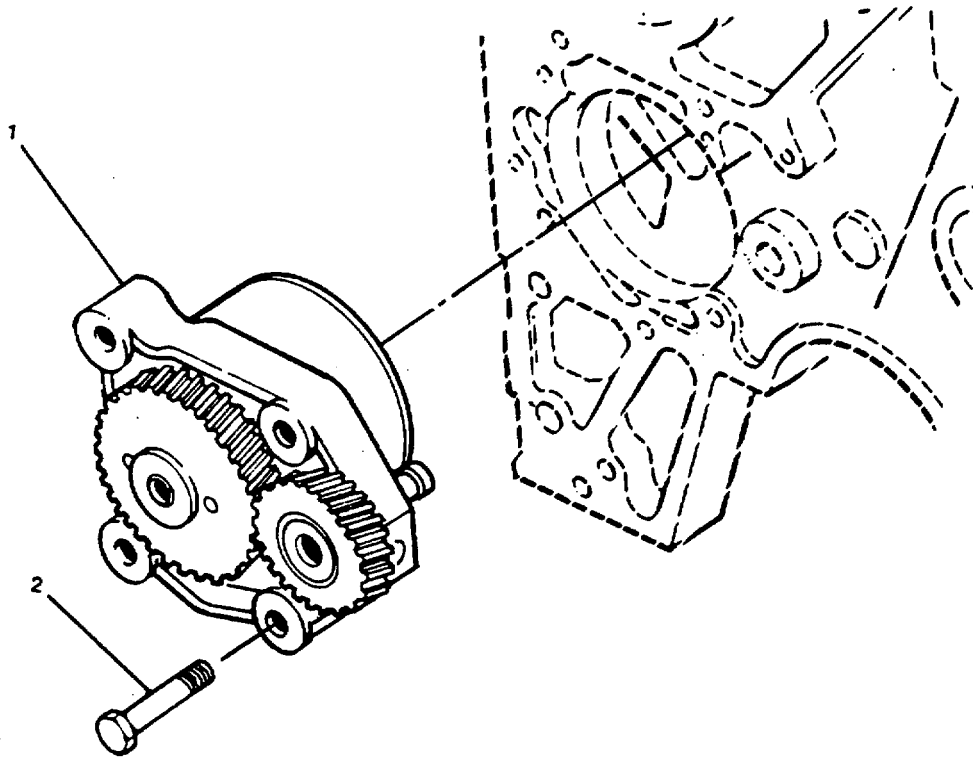

FIGURE 3-71. Lube Oil Pump.
REMOVAL (FIGURE 3-71; for callouts)
REPLACEMENT (FIGURE 3-71 for callouts)
- b. Install lube oil pump (1, FIGURE 3-71).
- c. Using capscrews (2), secure the lube oil pump. Torque to 18 ft-lb (24 Nm).